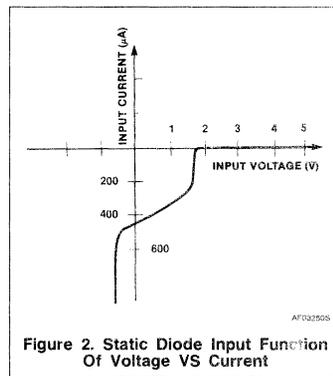
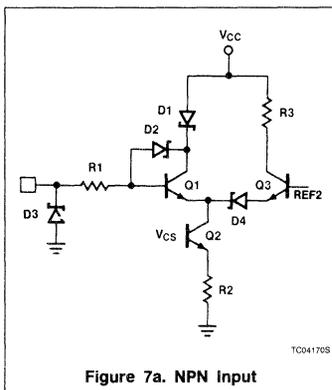
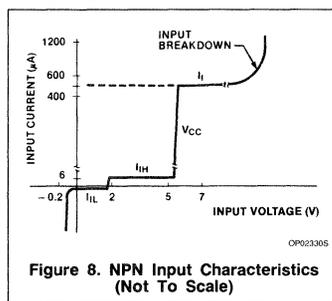

Figure 2. Static Diode Input Function Of Voltage VS Current
Figure 7a. NPN input
Figure 8. NPN Input Characteristics (Not To Scale)
The static diode input function of voltage versus current is shown in Figure 2. If the pin voltage is negative, most of the relatively high negative current flows through the clamp Schottky D2. At 0V the current flows from Vcc through R1 and D1 to the pin. Switching from a logic LOW level to a logic HIGH level occurs when the input pin voltage rises high enough to force the current from the D1 path to the Q4 - Q2 - Q1 path. This happens when the base voltage of transistor Q3 is at three base-emitter drops ($3V_{BE}$), and the pin is at $2V_{BE}$, which is the standard FAST threshold switching voltage. At this voltage the input current is very small, just the leakage currents of diodes D1, D3 and clamp diode D2. The current remains at this small, positive value until breakdown voltage is reached.
The current of Figure 2 is scaled for the case where the pin is required to pull down a single $10K\Omega$ resistor R1 (20uA maximum in the HIGH state and 0.6mA maximum in the LOW state), which is defined as a standard FAST Unit Load (UL). For some parts, pin current can exceed a UL, especially in the logic LOW state. This will happen if the pin must sink the current from more than one R1 resistor, or if the value of R1 is less than $10K\Omega$, which will be the case if the capacitance at the base of the transistor Q3 is too large for the required switching speed. In this event, the actual number of ULs is listed for each input in the specification sheet for the part. Note that a UL as defined here is less than the normally defined Schottky TTL Unit Load; the correlation is one Schottky Unit Load = 1.67 ULs. This is an important point to remember for fan-in and fan-out calculations in systems that mix FAST with other TTL families.
The NPN input is shown with two variations in Figures 7a and 7b. It has limited use in standard TTL circuits, and is used in selected FAST devices, especially where its superior high-impedance input characteristics are use-
ful. A typical plot of static input current versus input voltage is shown in Figure 8. There are some significant differences between this function and that of the diffusion diode input shown in Figure 2, the most important being the much lower input current in the region from 0V to threshold, and the controlled increase of input current above V_{CC} . In Figure 7a Ref 2 is set to $2V_{BE}$ plus one Schottky drop.
For the inductive overshoot case, when the pin voltage exceeds V_{CC} , part of the Q1 collector current begins to flow from the pin through limiting resistor R1 and Schottky diode D2. The current from V_{CC} through D1 decreases by exactly this amount, since Q2 is a constant current source. As the voltage continues to rise, D1 becomes reverse biased and prevents high currents flowing from the pin into V_{CC} . All the Q2 current flows into the pin through the R1-D2-Q1-Q2-R2 path to ground. As stated before, this current is typically small, in the range of 0.1mA to 1.0mA, and nearly independent of pin voltage, as shown by the I_I plateau in Figure 8. I_I provides a clamping action to ground for pin voltages in excess of V_{CC} , and this is usually desirable to reduce overshoot.
inspection. For the incoming inspection testing case where V_{CC} is connected to a 5V source the response is shown in Figure 8. The current remains on the Q2-limited plateau until the pin voltage is high enough to cause non-destructive collector-emitter reach-through of Q2. At this point, input current increases as the pin voltage rises, and R1 functions to limit this current and prevent damage to Q2.
The current-mode logic interface is shown in Figure 7a. The output voltage is the drop across R3, and is referenced to V_{CC} (or some on-chip regulated voltage lower than V_{CC}) as is required for current-mode logic. For this case, voltage reference REF2 is normally fixed at $2V_{BE} + 1$ Schottky drop to provide a pin threshold voltage of $2V_{BE}$. In fact, REF2 can be tailored to set the switching threshold voltage to any desirable level; it can be set to something other than an integral number of base emitter drops, or it can be designed to reduce the sometimes undesirable temperature variations of input threshold.